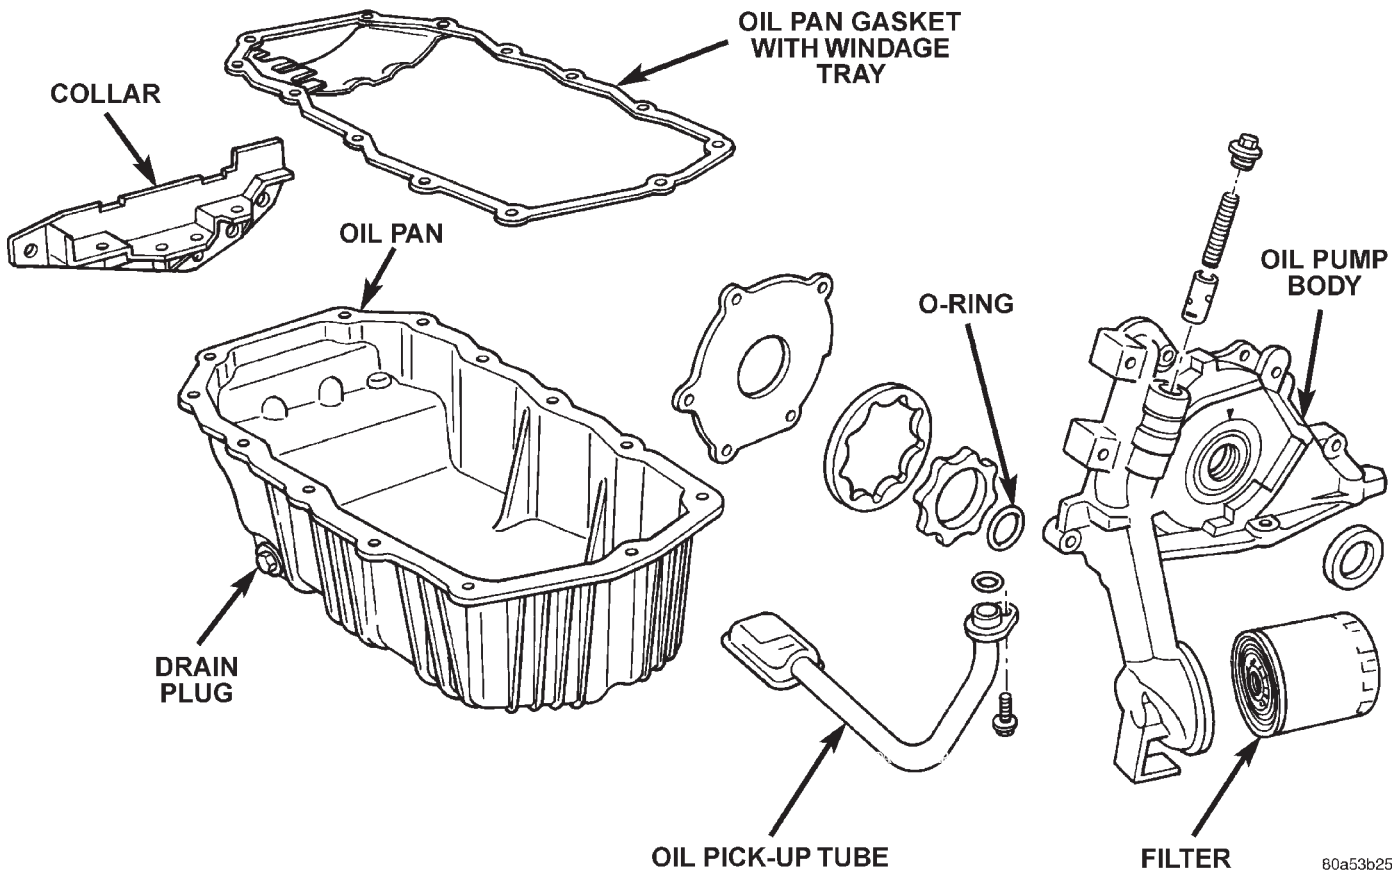

Fig. 78 Oil Pump and Pick-up Tube
- (5) Remove oil pick-up tube.
- (6) Remove oil pump, (Fig. 78) and front crankshaft seal.